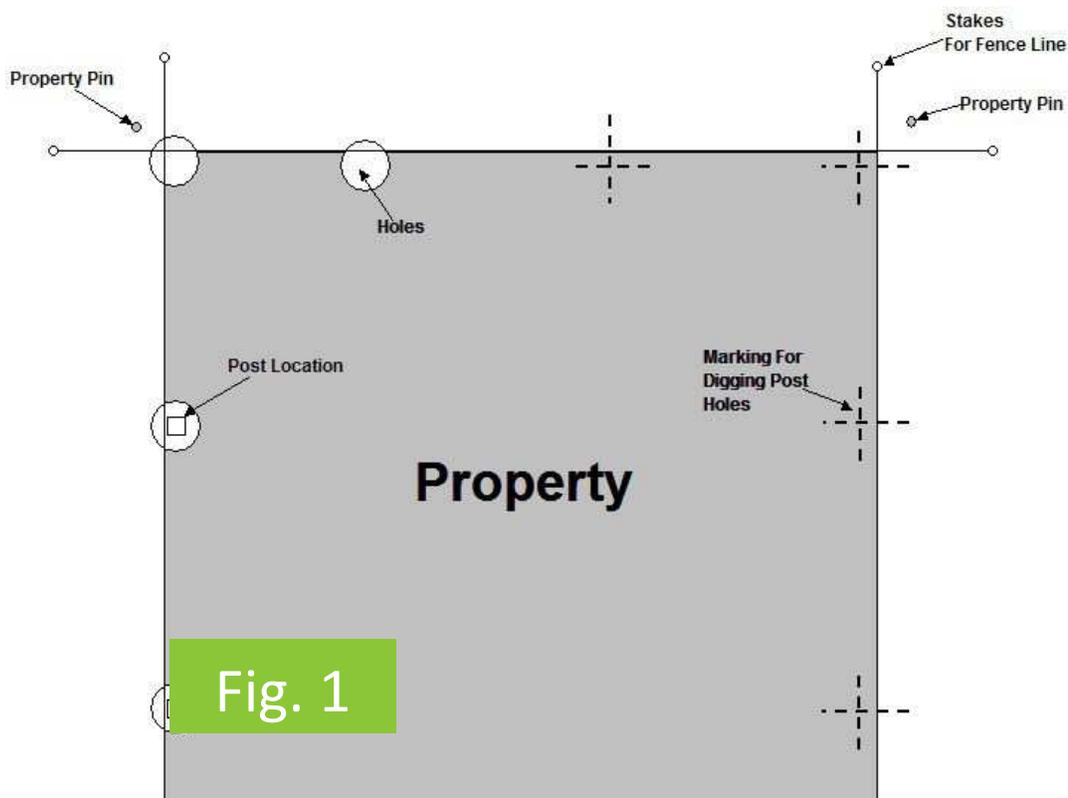

Fig. 1
2. Mark Location of Posts. Spray paint a line perpendicular to the string every 96" on center. Spray addition line (making a cross) 2" in from the string to mark center of hole (see Fig. 1).